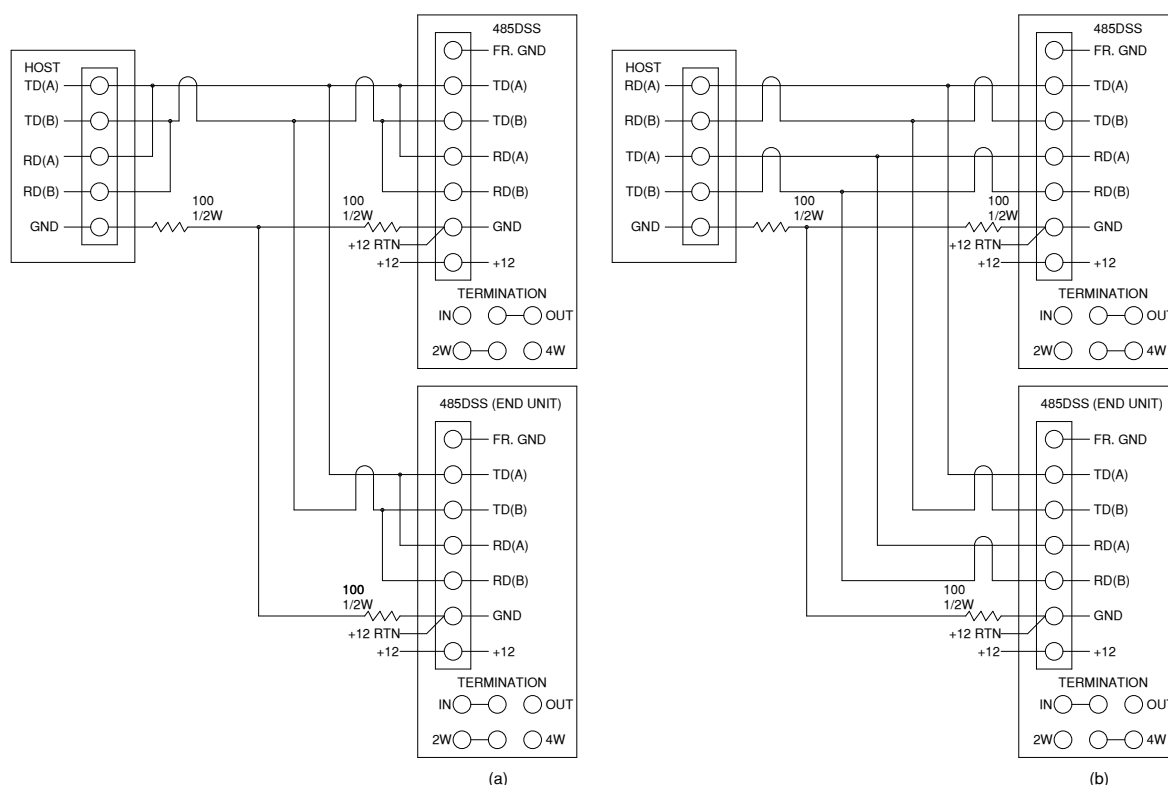

Figure 5.4. RS485 (a) 2-wire and (b) 4-wire connections
2. Set the 485DSS for either 2-wire or 4-wire communications. Jumper settings are illustrated in Figure 5.4, "RS485 \(a\) 2-wire and \(b\) 4-wire connections".
3. For noisy environments, a terminator may be required between the RD(A) and RD(B) lines. To add a terminator, set the termination jumper to IN to the 485DSS at the end of the line.